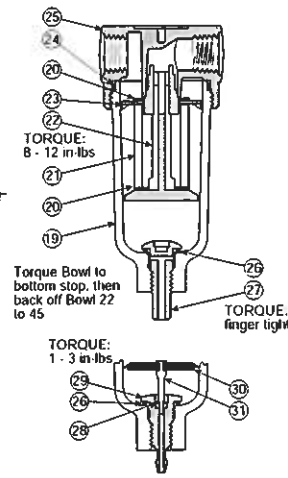

Figure 2: Particulate Filter
**Particulate Filter (Figure 2)**